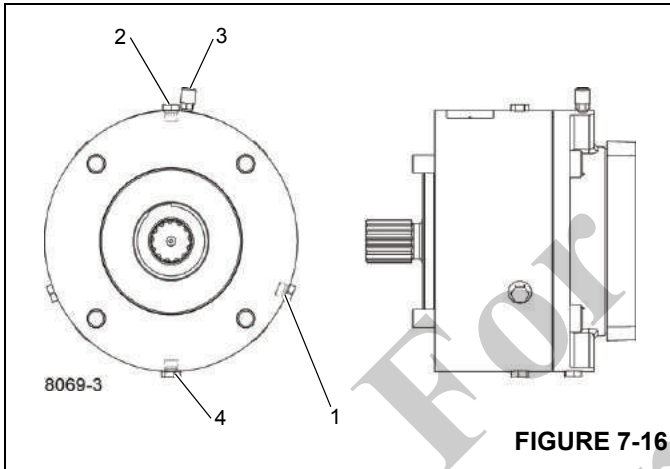
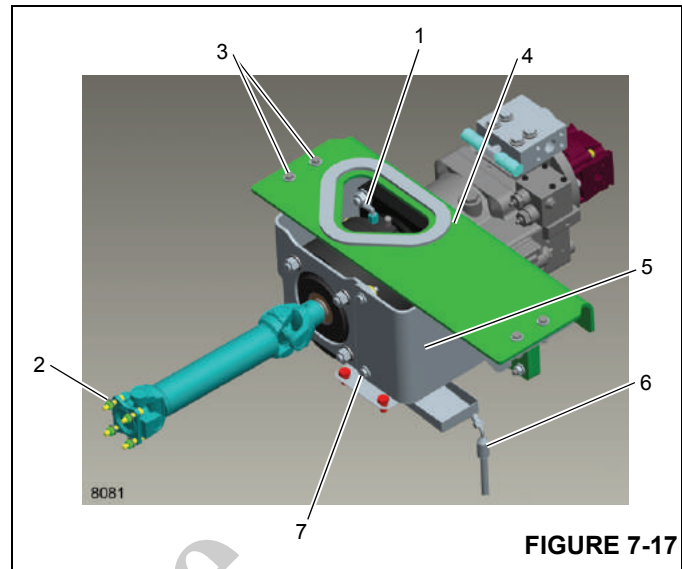

FIGURE 7-16
FIGURE 7-17
1. Remove access cover (5, Figure 7-17).
2. Open check plug (1, Figure 7-16) and check that oil is even with bottom of threads.
3. If necessary, remove fill plug (2) and add hydraulic oil until it is even with the bottom of the check plug threads.
4. Reinstall access cover (5, Figure 7-17) and secure with hardware (7). Refer to *Fasteners and Torque Values*, page 1-13.
When changing oil, place suitable container under drain pan hose (6, Figure 7-17) before removing drain plug (4, Figure 7-16). Remove and clean breather (3) and inspect and clean magnetic drain plug (4) for contamination or particles before reinstalling. For more information, refer to *Lubrication*, page 9-1.
2. Depressurize the air system and disconnect the clutch air line (1, Figure 7-17) from the clutch.
3. Remove the cap screws, nuts and washers (2) connecting the PTO driveline to the engine. Remove the driveline.
8. Remove the four cap screws, nuts and washers (3, Figure 7-17) securing the clutch mounting bracket (4) to the frame.